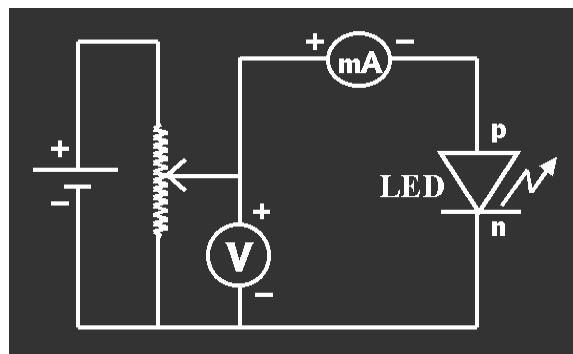
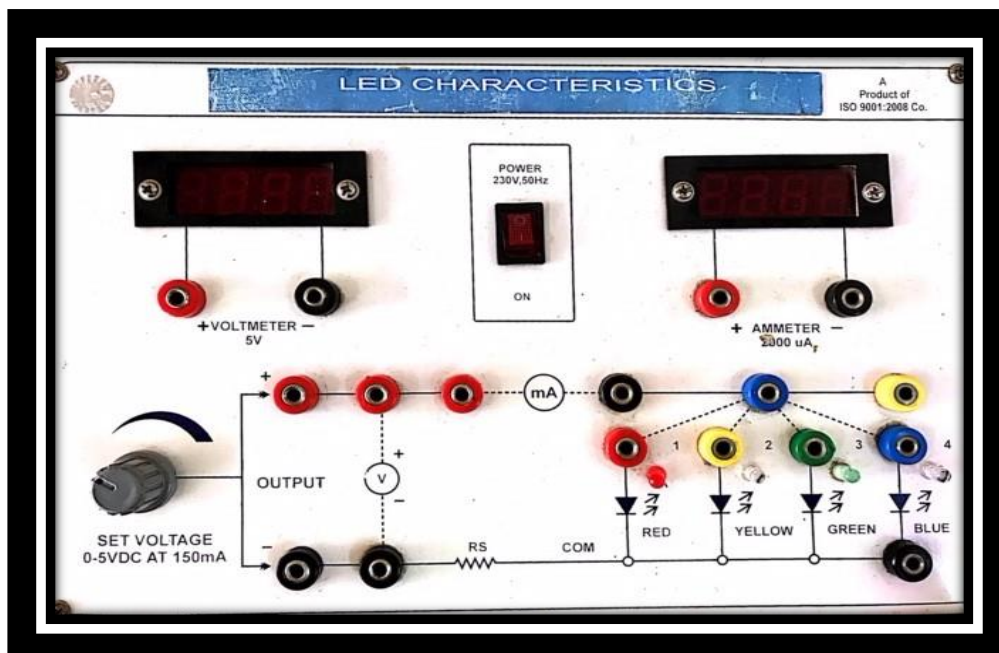

Figure 8.1: Biasing of Light emitting diode
Figure 8.2: Trainer kit of Light emitting diode
1. Make the connections as shown in the figure 8.1 on the trainer kit figure 8.2